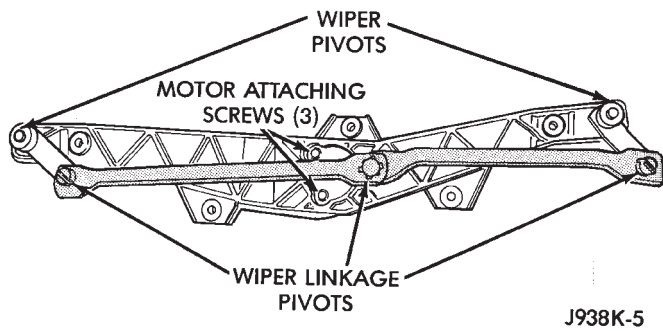

Fig. 8 Wiper Motor Removal
- (3) Disconnect washer hose and set cowl grille aside.
- (4) Remove 5 bolts holding wiper linkage assembly.
(5) Turn linkage over and remove the nut holding the crank arm to the motor.
(6) Remove 3 screws holding motor to linkage (Fig. 8) and remove motor.